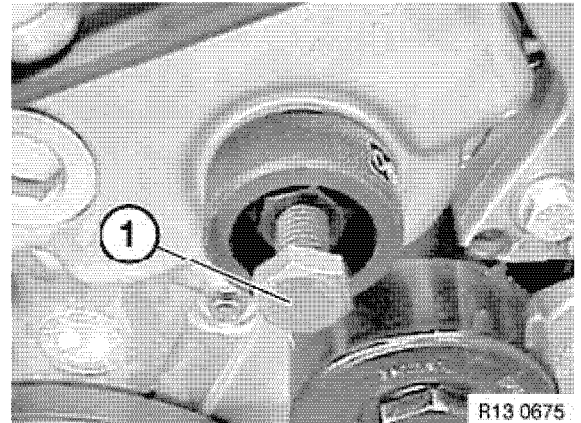

Figure 6-28
15. Tighten jack screw (1, Figure 6-28) until high-pressure pump is released from sprocket. Remove high-pressure pump from engine.